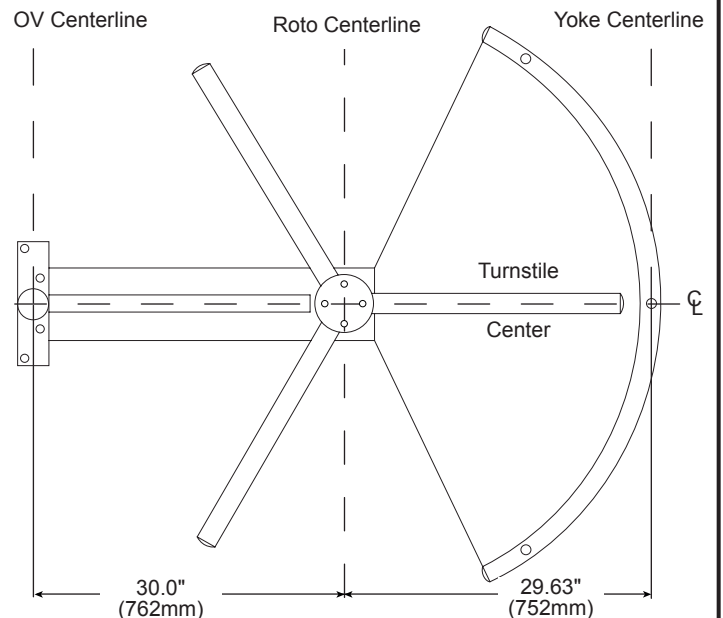

Fig. 2
2. Determine and mark the centerline location for the OV, Roto, and Yoke (Figure 2).